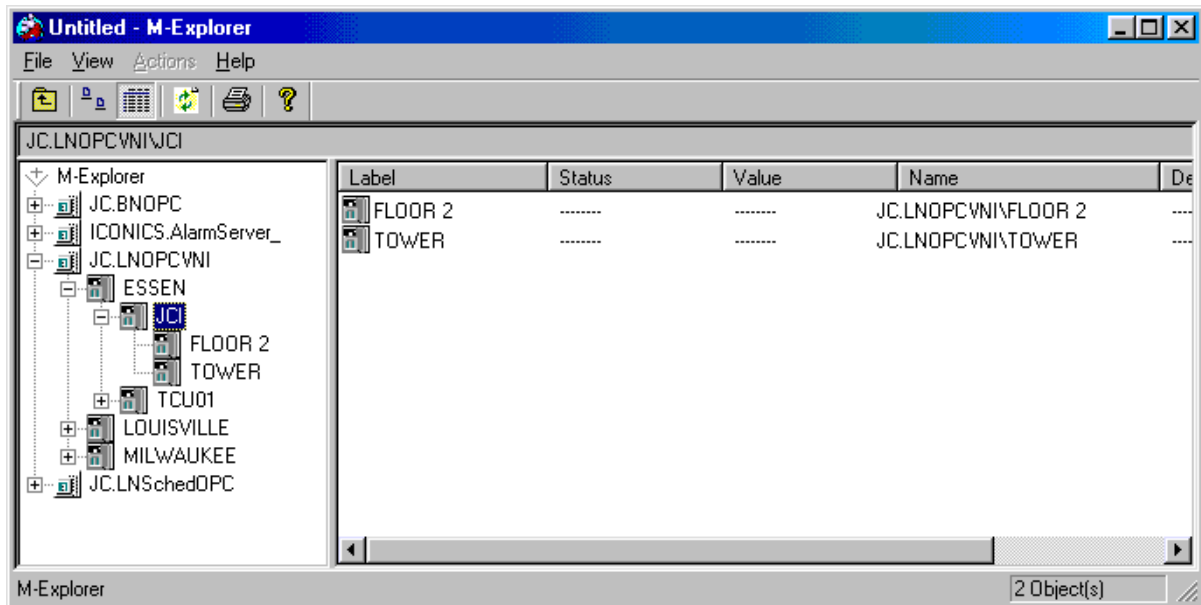

Figure D-2: Details View of JC.LNOPCVNI Branch Items
- The status of Branch items under JC.LNOPCVNI is always displayed as dashes (--), because the branch items only help to organize the hierarchical display and are not objects with viewable or commandable properties (see Figure D-2 for an example). The branch items can be compared with the folders shown in Windows Explorer.